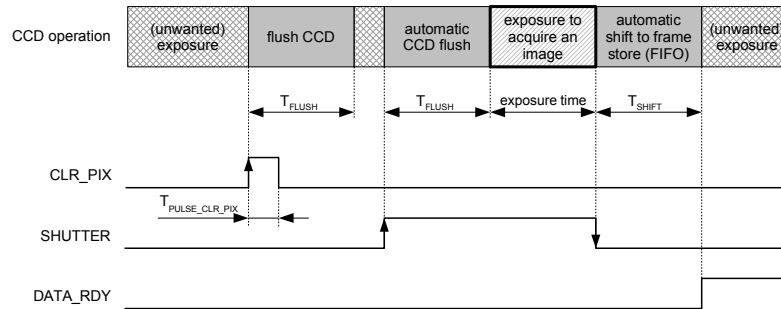
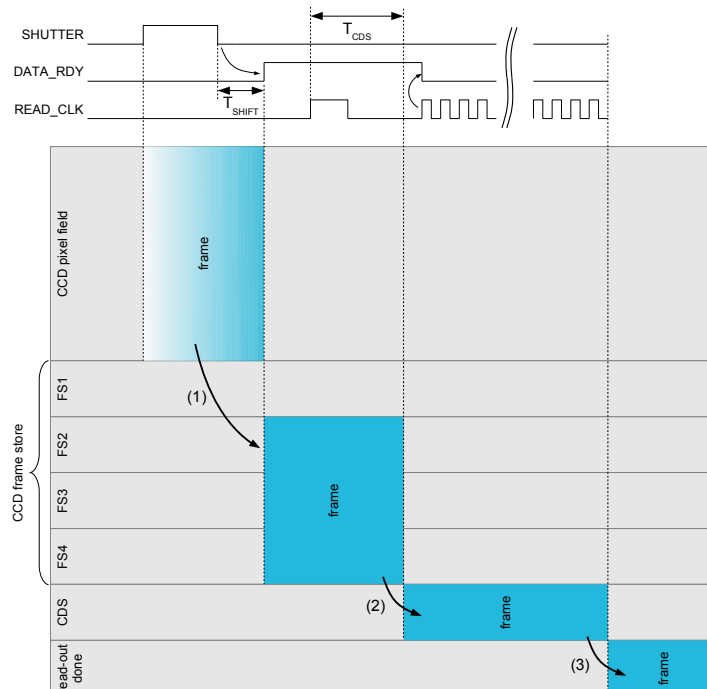
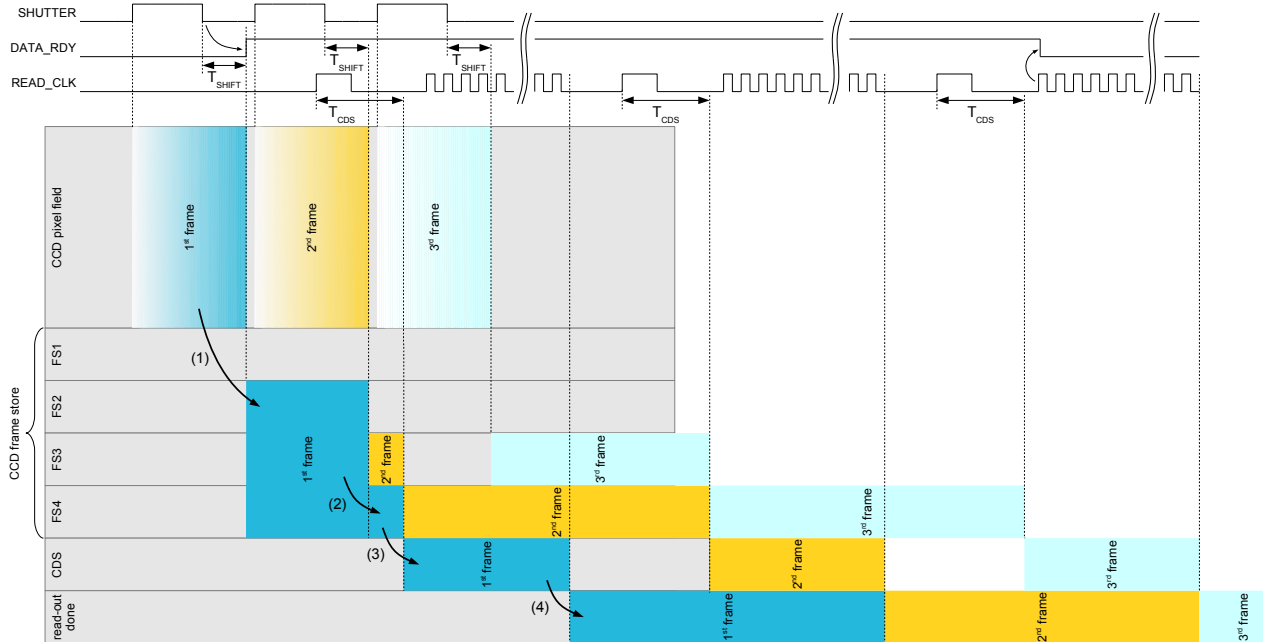
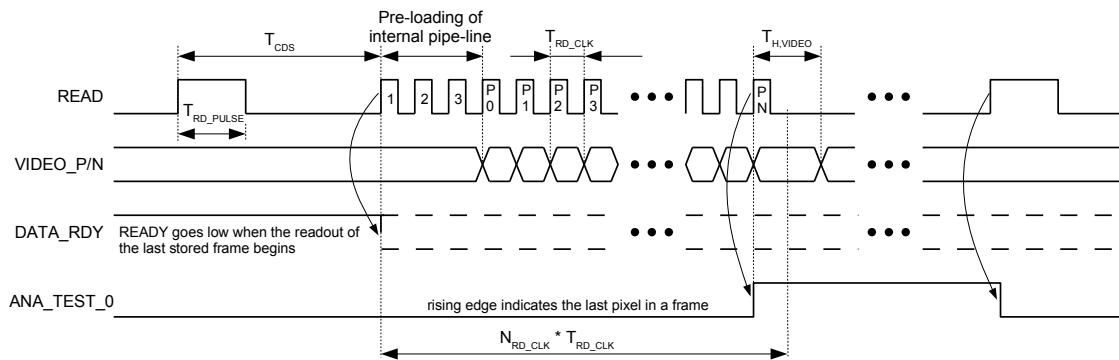

Figure 9: Image acquisition timing
Figure 10: Example of single-frame acquisition and read-out
Figure 11: Multi-frame acquisition and read-out
Figure 12: Image readout timing of one frame
The acquisition of a frame is controlled by a pulse on the SHUTTER pin (see Figure 9). The rising edge triggers the internal flush operation to erase the CCD from any unwanted electrons prior to the exposure. The exposure starts automatically after the flush operation is completed. The CCD collects electrons thereafter as long as the SHUTTER pin is high. Upon the falling edge of SHUTTER, the charge collected in the CCD pixel field is shifted to the CCD frame store which is an area which is not photo-sensitive (see (1) in Figure 10). As soon as the frame is ready for read-out, the signal DATA_RDY goes high. The image is ready to be readout as described in section 5.4.
Up to 4 images can be acquired and stored in the frame store in a fast sequence without intermediate read-out. The frame store is organized in 4 frame store elements (FS1-FS4), thereby each frame store element can store one frame/image. The first captured image initially occupies 3 frame store elements as for a single-frame acquisition (see section 5.2 and Figure 10). epc901 automatically detects a multi-frame acquisition when detecting the second SHUTTER signal without prior read-out. Upon the second shutter, the first image is shifted to a single frame store element (see (2) in Figure 11). The frames are shifted from the pixel field to the frame store as a FIFO: The first captured image is the first one to read out. The read-out is described in more detail in section 5.4. As soon as 4 frames have been captured without prior read-out, at least one read-out has to be issued prior the next shutter in order to make FS1 available again. Excessive shutter pulses are ignored.
The first pulse of a read sequence applied to pin READ is a Read Pulse and must have a duration of T_{RD_PULSE} . Upon this Read Pulse, the last frame in the frame store is converted pixel-wise from charge to voltage. This operation is called correlated double-sampling (CDS) and lasts for the time T_{CDS} . Following the Read Pulse, respecting a delay of at least T_{CDS} , Read Clock pulses are applied to the READ pin in order to transfer the pixel voltages to the VIDEO_P/N pins. The first 3 Read Clock pulses, designated with 1, 2 and 3 in Figure 12, are used to pre-load the pipeline. Thus the first 3 pixel voltage values on VIDEO_P/N can be ignored. The subsequent Read Clock pulses, designated with P0 ... PN in Figure 12, transfer the pixel voltage values through the video amplifier to the VIDEO_P/N pins.
The signal DATA_RDY remains high as long as there is at least one frame stored in the CCD frame store. If no more frames are stored except the one that is currently read out, the signal DATA_RDY goes to low state on the first positive Read Clock edge (see Figure 12). If no frame is stored, the chip does nothing upon a Read Pulse.
- The following time periods shall never overlap in any multi frame acquisition or by parallel reading during exposure: T_{FLUSH} with T_{CDS} and T_{SHIFT} with T_{CDS}. Refer for these signal to Figure 9 and Figure 12.